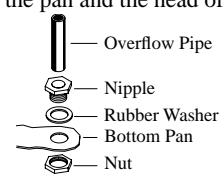

Fig. 4
**Overflow assembly.** Remove nut and place nipple through the hole in the pan, with the rubber washer between the pan and the head of the drain nipple (Fig. 4). Screw on nut and draw up tight against bottom of pan. Insert overflow pipe in nipple to retain water. Overflow pipe may be removed to drain pan when necessary. A garden hose may be screwed on the drain nipple to drain water away from your unit.